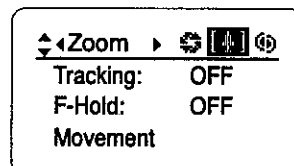

Fig. 2-6
2. Push the Set key, and use the right key to display the Zoom screen. (See Fig. 2-6)